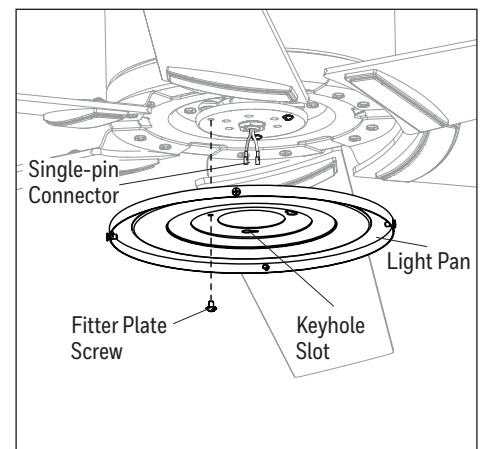

Figure 5.6
- Remove one of the three fitter plate screws from the fitter plate and loosen the other two but do not remove. Feed the single-pin connect through the center hole in the light pan. Align the keyhole slots in the light pan with the loosened screws in the fitter plate. Turn light pan clockwise and replace the previously removed fitter plate screw. Tighten all screws (Figure 5.6).